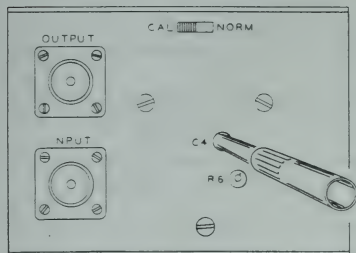

Figure 3
- 2.() Connect a 50-ohm noninductive load, such as the Heathkit Cantenna, to the remote chassis OUTPUT jack. (See Figure 3 on Page 14).
- 3.() Connect the transmitter output to the INPUT jack on the remote chassis. (See Figure 3.)
- 6.() Set the CALIBRATION switch, on the rear of the remote chassis, to NORM (see Figure 3).
- 12.() Refer to Figure 3, and adjust SWR NULL trimmer C4, through the rear of the remote chassis, with the alignment tool (nut starter) for the best null or greatest dip of the meter needle. This reading should be at or near zero. NOTE: Do not use any metal tool other than the nut starter blade to make these adjustments.